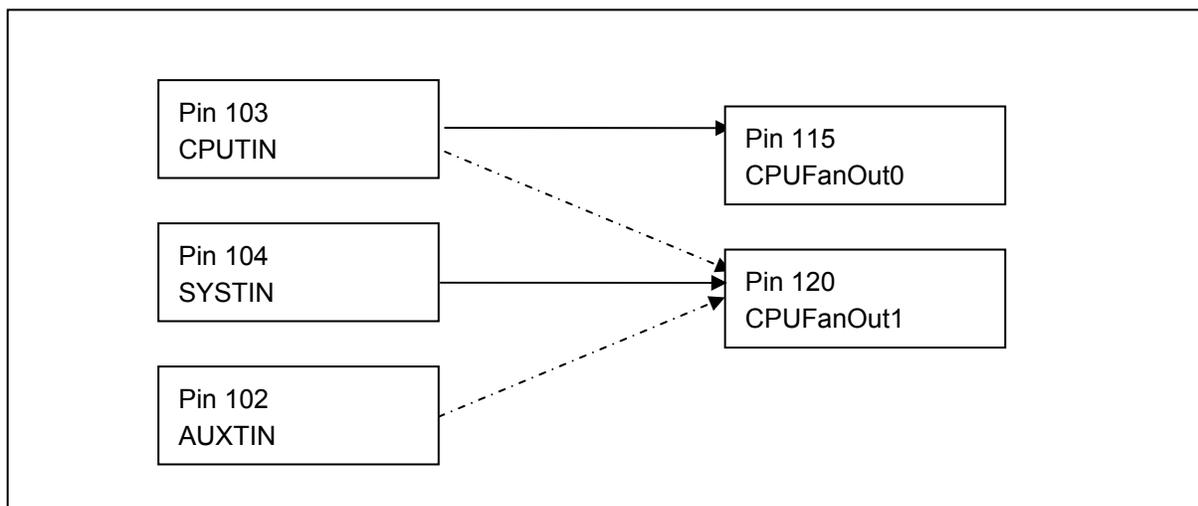

Figure 6.9, 6.10, and 6.11 illustrate SMART FAN™ III mode, and the algorithm of fan speed control is described as follows:
- (1) Figure 6.9 shows the initial condition of SMART FAN™ III. Target Temperature, Temperature Tolerance, Maximum Fan Output and Minimum Fan Output must be set first. If the currently measured temperature is within the (Target Temperature ± Temperature Tolerance), the fan speed remains constant.
- (2) In the case that currently measured temperature goes beyond (Target Temperature +